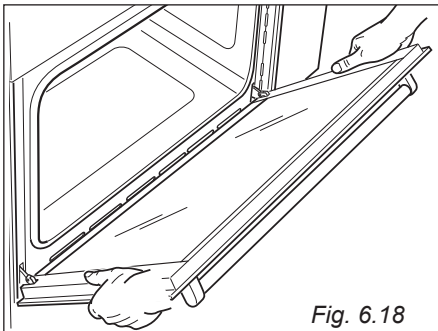

Fig. 6.18
- Hold the door as shown in fig. 6.18.